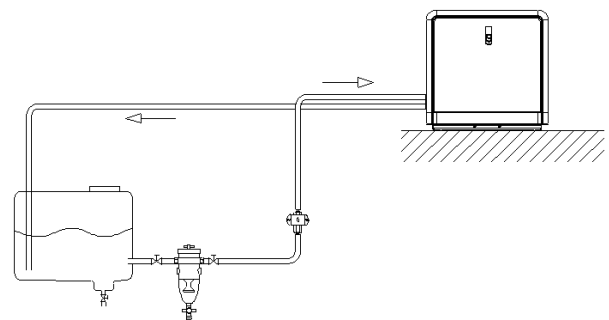
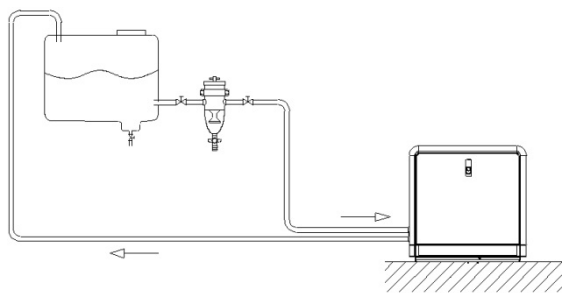

Figure 3: Fuel tank below the genverter
Figure 4: Fuel tank above the genverter
- 1 Most importantly, the structure on which the genverter is placed must be stiff. Directly below the base frame, the structure should be supported vertically to the chassis of the vehicle. When this is not possible horizontal structures should be made stiff by additional provisions (Figure 4).
When the tank is above the genverter (Figure 4) we recommend ending the return line on the top of the tank. When the return is on the top, siphoning of the return line is impossible in case of a leakage. Only the fuel supply line will need to be fitted with a fuel cock. When the tank is below the genverter (Figure 3) we recommend ending the return line on the bottom of the tank below the inlet of the supply line.